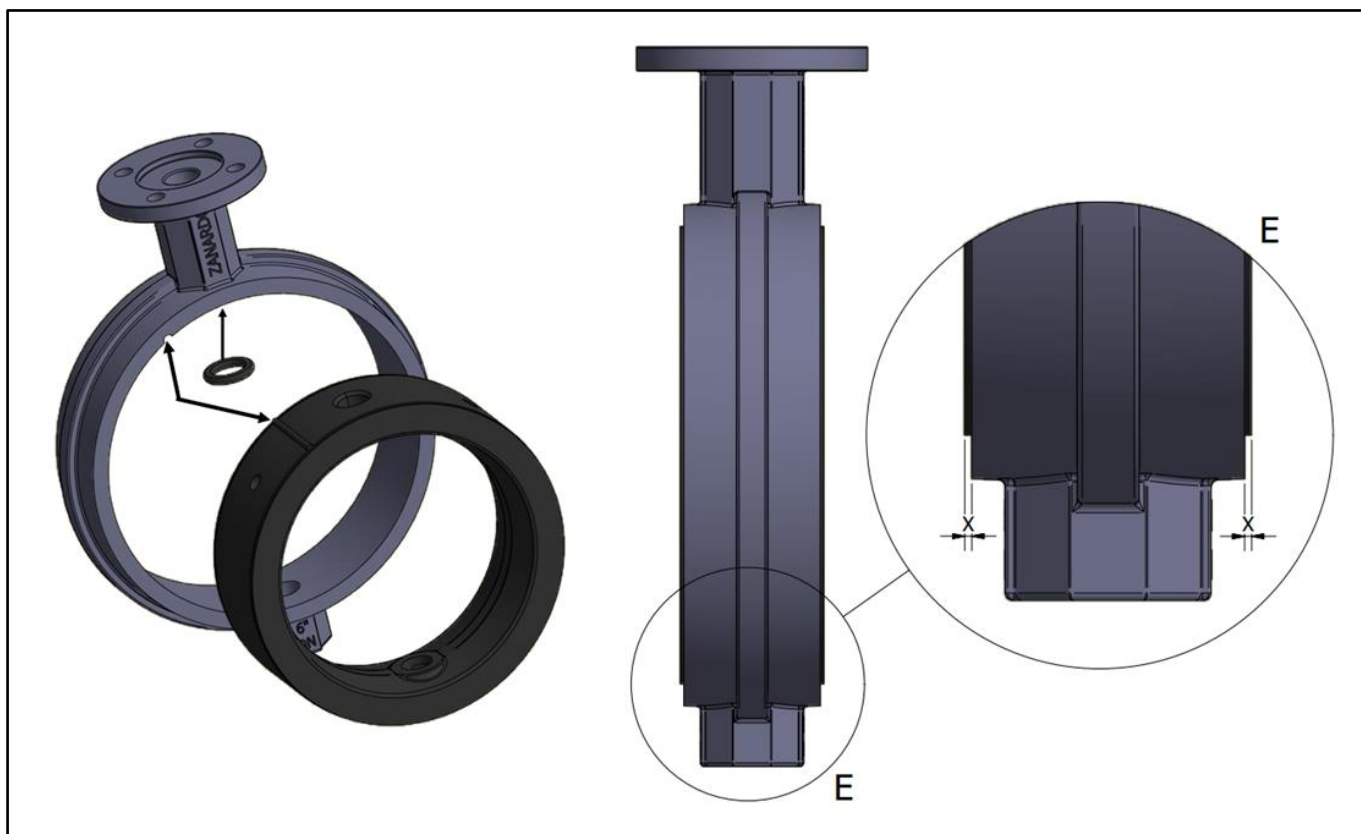

Figure 5 Illustrative picture
- 1º Remove the disc locking screw (5).
- 2º with the aid of a "axle pull", remove the through axle (3) through the threaded bore on its face.
- 3º Remove the shutter disc (2) from the valve.
- 4º Remove the lock steel seal (4) and the sealing ring (6) from the valve body (1).
- 5º Clean the valve body (1), the sealing disk (2) and the through shaft (3).
- 6º Place the new packing ring (6) in its original position.
- 7º Place the new seal (4) in its original position. As shown in figure 5 on p. 5.
- 8º Place the shutter disc (2) in the open position, until the center of the valve body (1)
- 9º Lubricate with Vaseline water based on the through shaft (3) and set screw observing the position of the housing (5) that is positioned on the side of the threaded hole of the shutter disc (2).
- 10º Insert the locking disc bolt (5), we recommend using glue lock in this process.